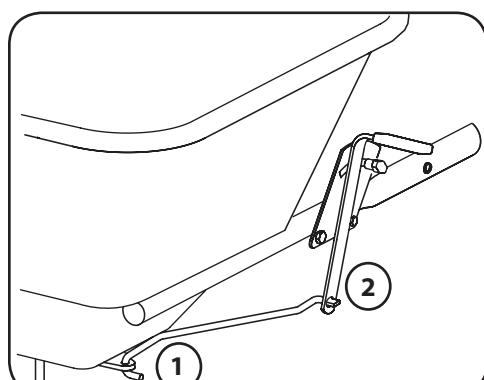

Figure 1-10
10. Insert the control rod (hook side) into the restrictor plate (preattached beneath the hopper) from the top down. See 1 in Figure 1-10.
11. Insert the flattened (90° angle side) of the control rod into the control handle. See Figure 1-10